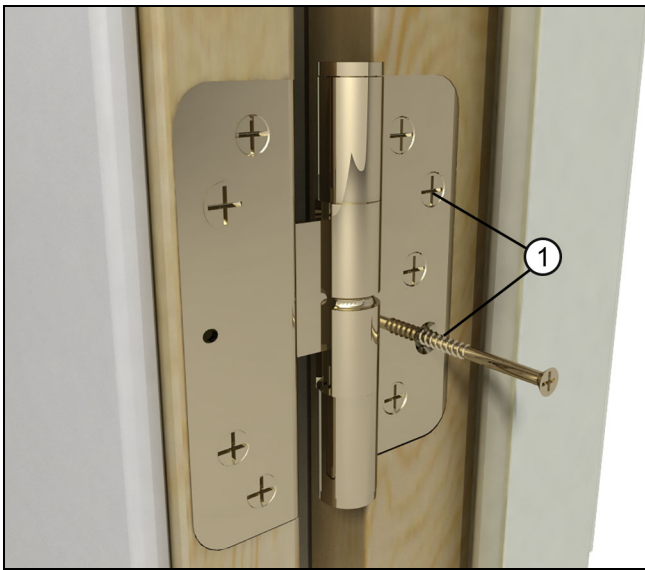

Figure 3 Adjustable hinge
3. On all operating panels, install a provided #10 x 2 1/2" screw (two #12 x 2 1/2" screws for ball bearing hinges) as shown in Figure 3 and Figure 4. On Outswing products, inject pre-drilled screw holes with sealant before installing 2 1/2" screws into hinges.